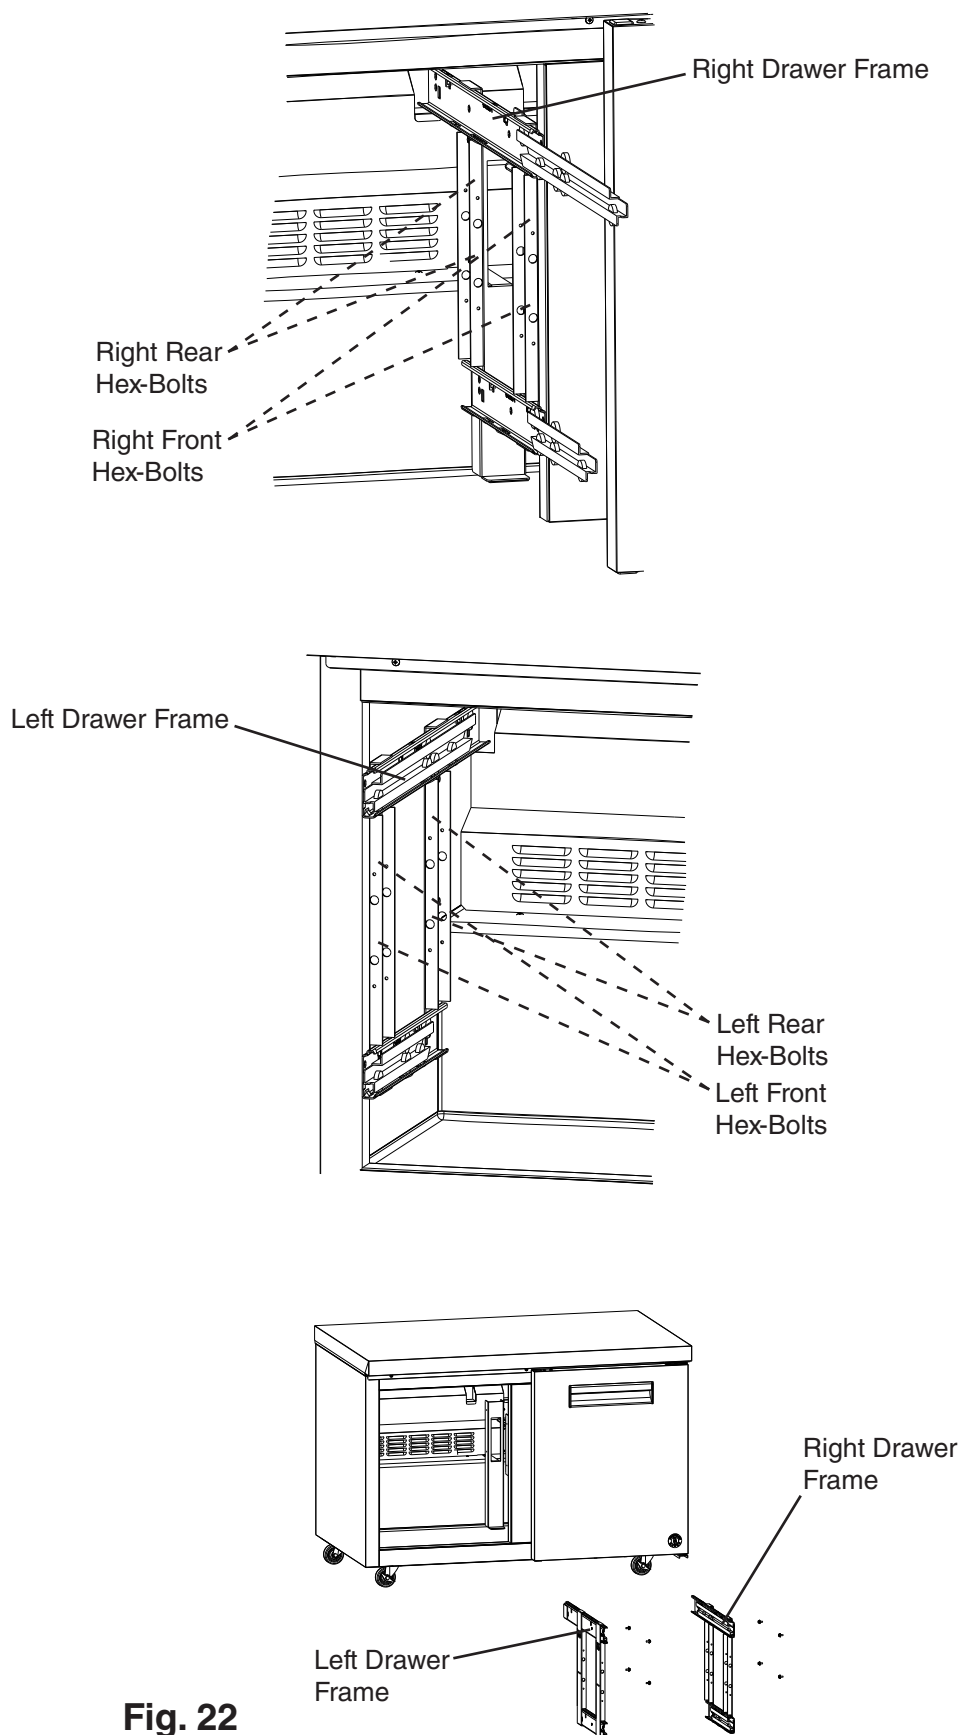

**Fig. 22**
- 4) Remove the hex-bolts from the drawer frames (4 hex-bolts per frame), then remove the drawer frames. See Fig. 22.